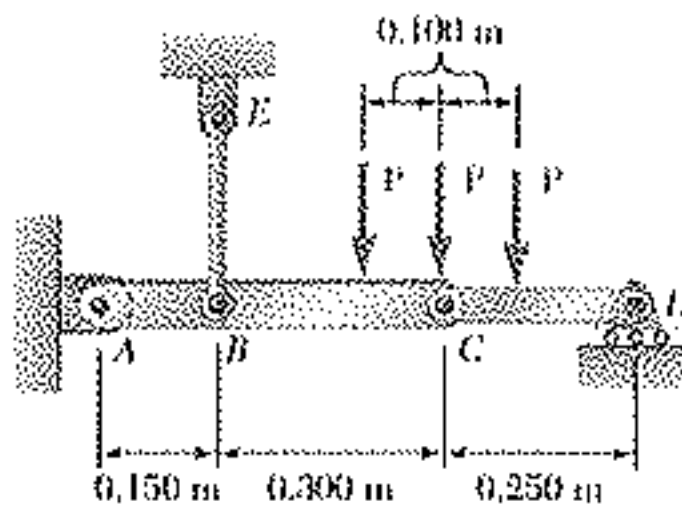

Figure 4
4. Three forces, each of magnitude $P = 4$ kN, are applied to the mechanism shown in figure 4. Determine the cross-sectional area of the uniform portion of rod BE for which the normal stress in that portion is +100 MPa.